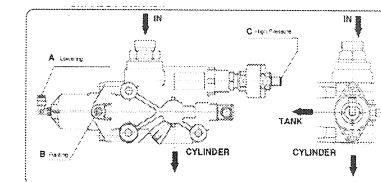

Figure 2
2. For hose connections to the CVA16DP valve see (Figure 2)